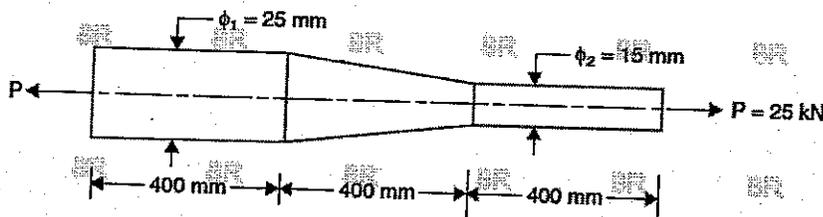

Figure 1
3. Find the extension of the bar shown in Figure 1 under an axial load of 25 kN. Take Young's modulus = 200 MPa. [10]